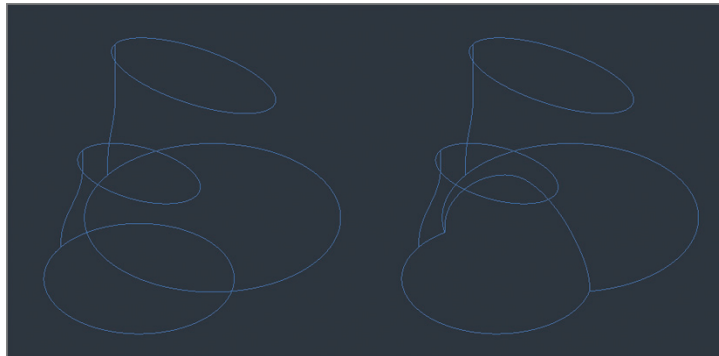

FIGURE 17.22 Wireframe representations of two separate lofted ventilation towers (left) and a single object (right) created with Boolean union
3. Select the Union tool in the Boolean panel, click the left and right ventilation towers, and press Enter. A curve representing the precise intersection of these two forms' surfaces appears in the wireframe representation (see Figure 17.22).